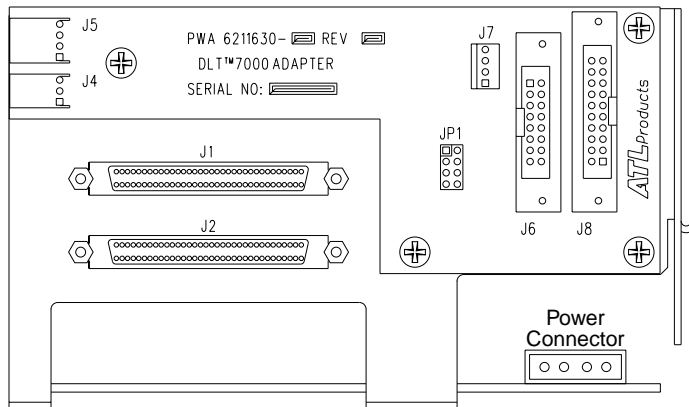

FIGURE 4 DLT7000 Tape Drive Interface PWA
1. Referring to TABLE 3 and FIGURE 4, connect the drive cables to the tape drive interface PWA.
1. Set the jumpers at JP1 on the tape drive interface PWA (see FIGURE 4) as indicated in TABLE 4.